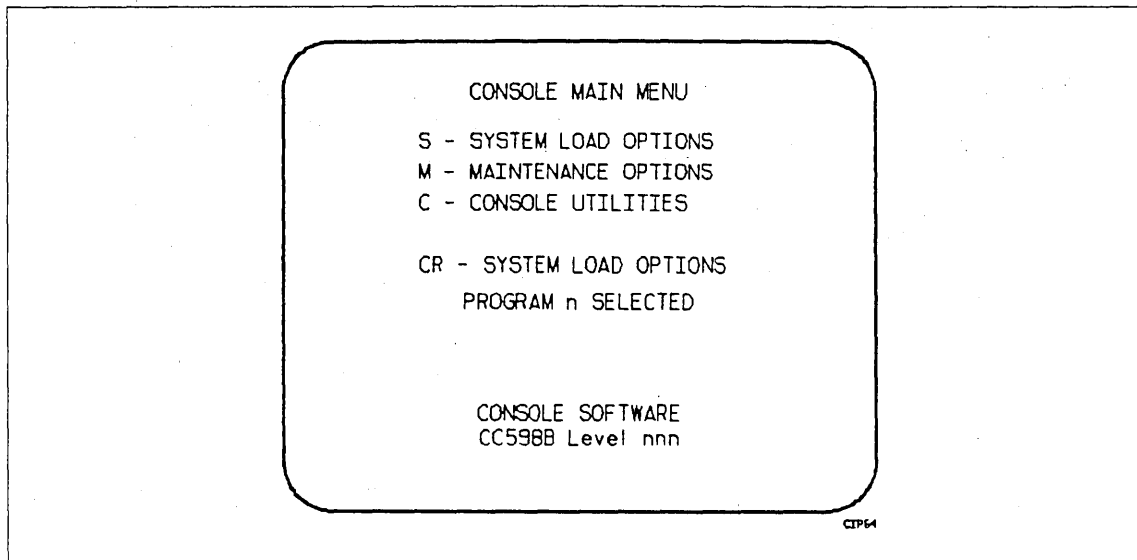

Figure 5-2. Console Main Menu (CC598B Console)
- ___ 1. If the console is already initialized, but the CONSOLE MAIN MENU is not currently being displayed, simultaneously press the Ctrl and F2 keys to bring up the CONSOLE MAIN MENU (figure 5-2).
- ___ 2. If the console is not initialized, simultaneously press the Ctrl, Alt, and Del keys. The CDC logo will appear. Approximately ten seconds thereafter, the CONSOLE MAIN MENU (figure 5-2) will appear.